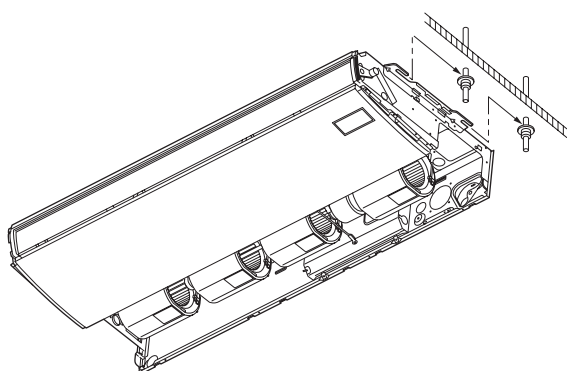

Fig. 3-100
- b) Lift the indoor unit, and place it on the washers through the notches, in order to fix it in place. (Fig. 3-100)